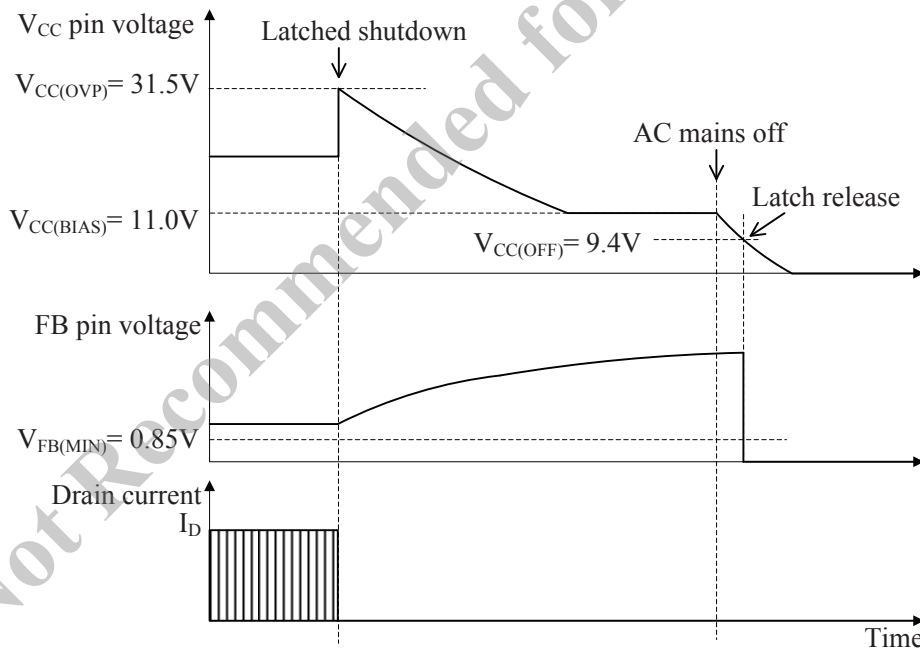

Figure 19. Waveforms when VCC pin OVP function is being activated
- VCC Pin Overvoltage Protection. Figure 19 shows the waveforms of the OVP function on the VCC pin. When the VCC pin voltage with reference to the S/GND pin reaches  $V_{CC(OVP)} = 31.5\text{ V}$  or more, OVP is activated and the IC stops switching operation in latch mode.